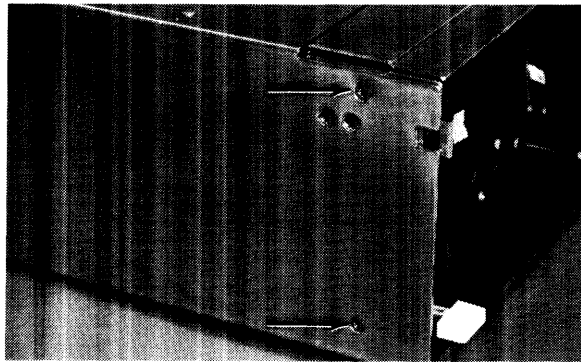

Figure 2-7. Fan Housing Fasteners
2. Using a #1 Pozidriv® screwdriver, remove the four screws holding the fan housing in place. Refer to Figure 2-7.